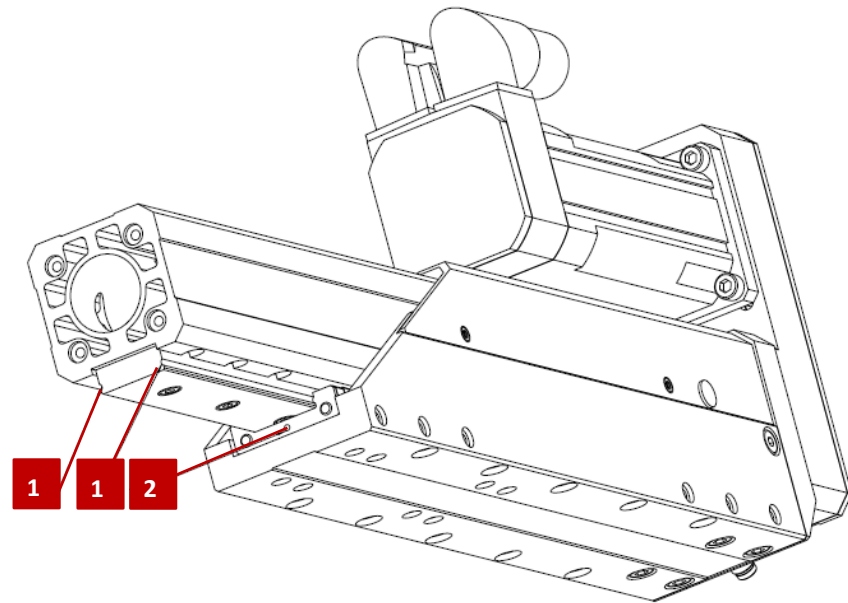

Fig. 14 Telescope spindle axis - grease nipple linear guide
4. Lubricate the guideways of the linear guide (Fig. 14, 1) so that an even lubricating film is applied.